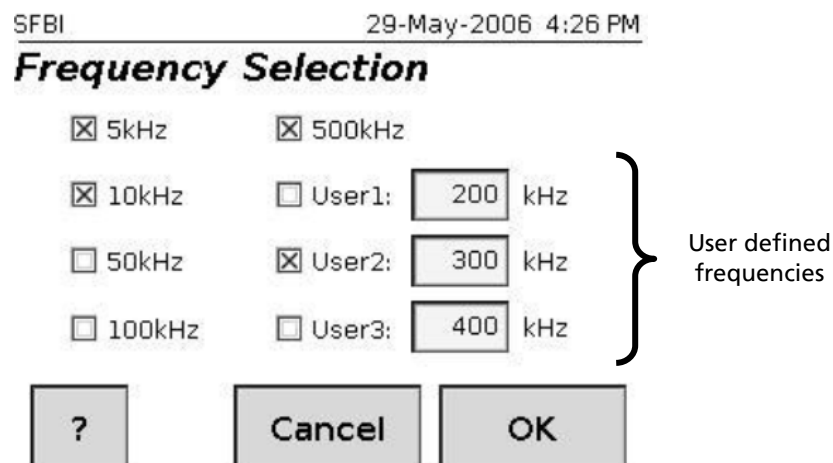

Figure 10. Frequency selection screen for SFBI
36. Tapping on the “selected frequencies” box will take you to the “frequency selection” screen where you may then select which frequencies you would like the machine to use for the measurements (figure 10). Tap on the boxes to put a cross in the frequencies you want to use. This section also gives you the opportunity to select frequencies of your own choice.